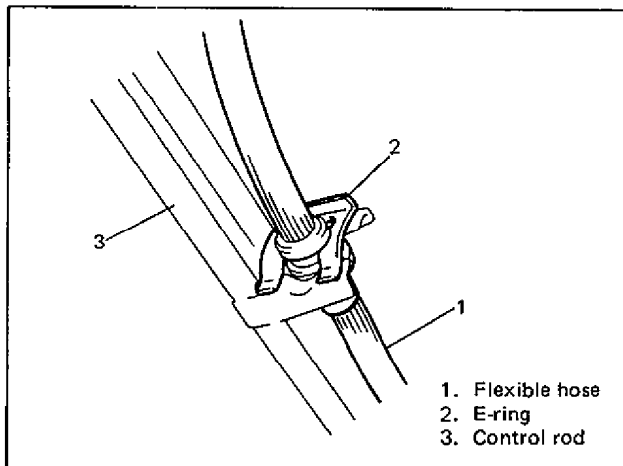

Fig. 3E-7
- 5) Install wheel and tighten wheel nuts to specified torque (Refer to Fig. 3E-53).